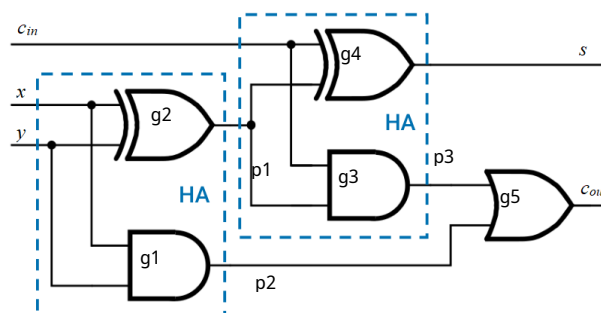

Figure 3: A logic circuit performing the function of a Full-Adder.
c) ⚠ Recall that a Full-Adder is a one-bit adder that can be realized with two Half-Adders (see Figure 3). A Full-Adder has three binary inputs and two binary outputs: